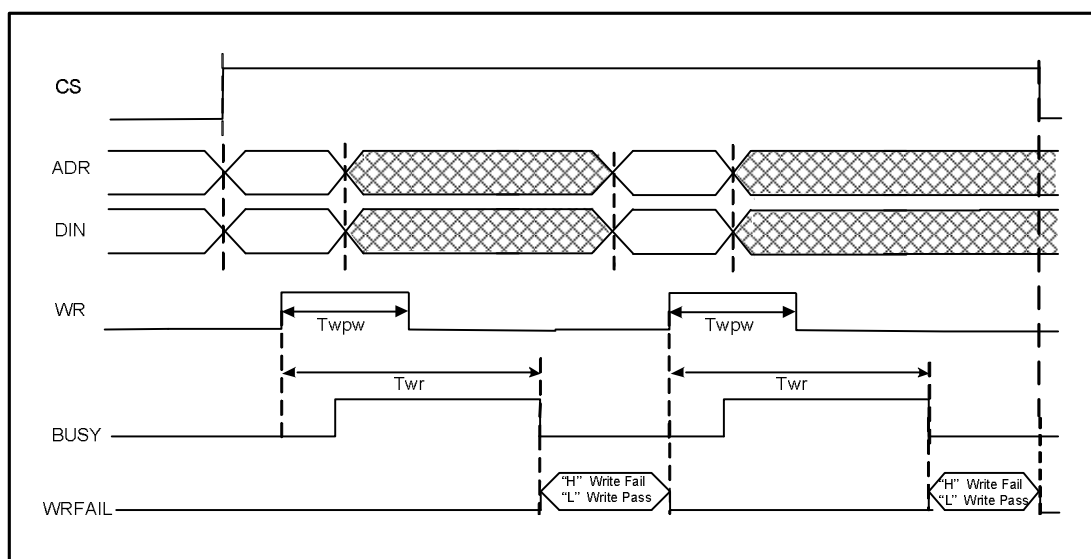

Figure 5.
4. YMC NVM IP also provides WRFAIL operation executing with BUSY Check mechanism. Refer to Figure 5. When busy time exceeds the maximum  $T_{wr}$ , WRFAIL signal is pulled “high” and BUSY signal is pulled “low” to interrupt the write operation. This will avoid BUSY signal keeping “high” all the time and user’s system can still work well. WRFAIL signal will be cleared by next WR rising edge or when CS goes low. The maximum write fail time is 50ms under characterization. If WRFAIL signal pulled “high”, but the data is read correct, it doesn’t mean the data have been written to current level rigidly.